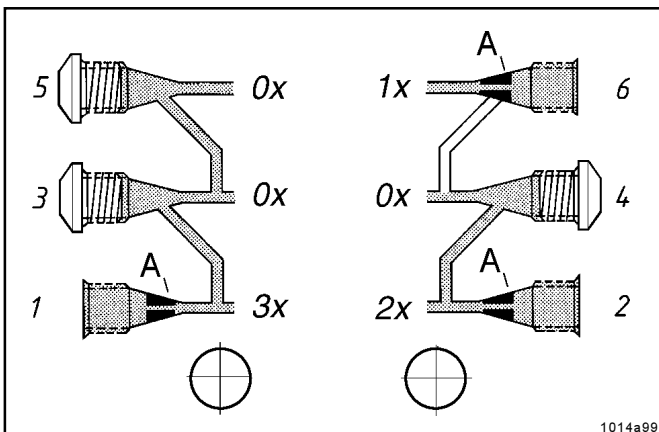

Fig. 14 - Single, double and triple lubricant output
- As shown in Fig. 14, outlet borehole 4 has been closed. The lubricant quantity supplied by this outlet flows out of the metering device via outlet 2.